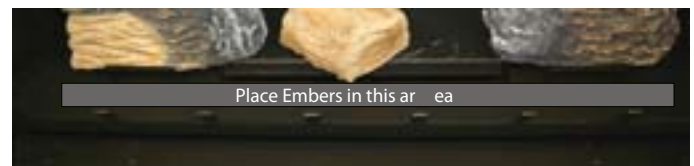

Figure 10f. Placing Embers.
**Step 8.** Place the Right Center log as shown using the notch in the Top Right log as a guide, **figure 10f**.
**Step 9.** Place the Embers as shown in **figure 10f**.